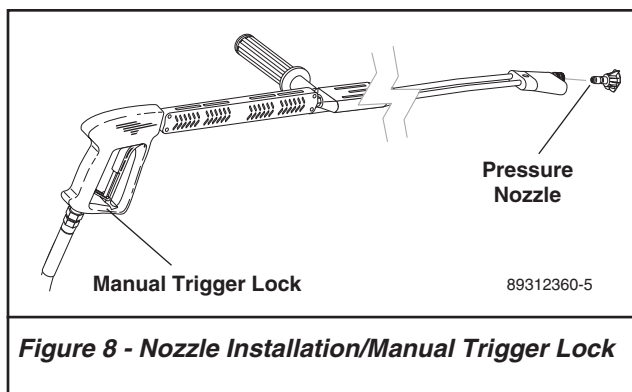

Figure 8 - Nozzle Installation/Manual Trigger Lock
7. Install the proper pressure nozzle for your cleaning needs on end of wand, refer to **Figure 8**.
IMPORTANT: The trigger gun provided with this pressure washer is equipped with a manual trigger lock to prevent accidental operation of the trigger gun, refer to Figure 8. The manual trigger lock should be used whenever the trigger gun is not in use.